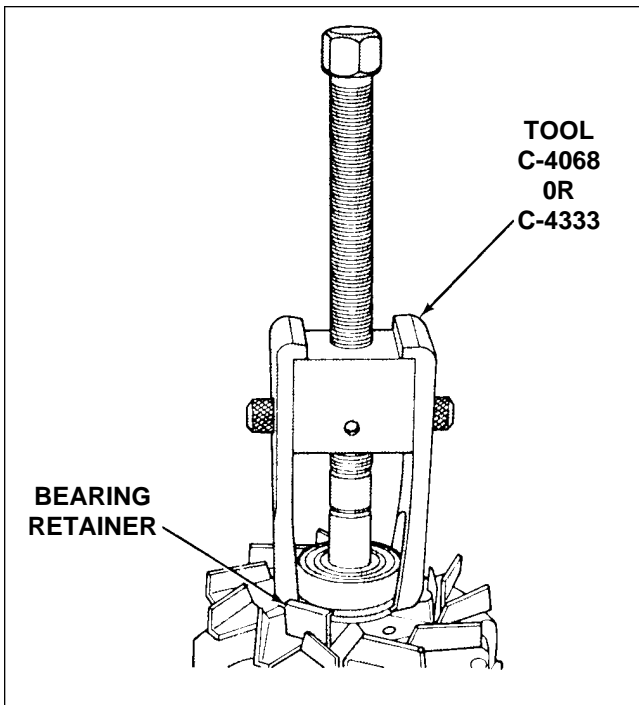

Figure 24-28. Removal of Chrysler Alternator Bearing
- e. Remove drive end ball bearing with Puller Tool C-4068. (Refer to figure 24-28.)